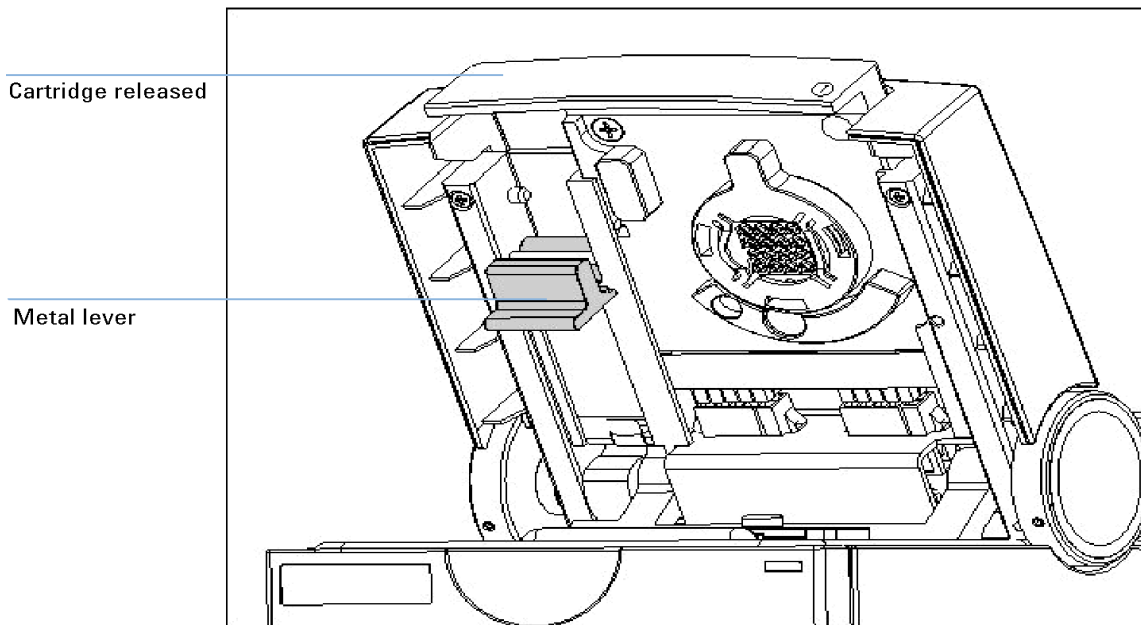

Figure 1 Remove/replace the electrode cartridge
- 2 Open the lid and pull the metal lever on the inside left of the lid to the vertical position as shown in Figure 1 on page 156. When the lever is in the vertical position, the cartridge is released from the lid by about 10 mm.
- 3 Gently pull the cartridge out of the lid as shown in Figure 1 on page 156.
- 12 Slide the electrode cartridge with the pin set into the 2100 Bioanalyzer lid as shown in Figure 1 on page 156 and move the metal lever to the flat (closed) position.
- 13 Push the metal front of the electrode cartridge to ensure a tight connection to the 2100 Bioanalyzer, see Figure 1 on page 156.